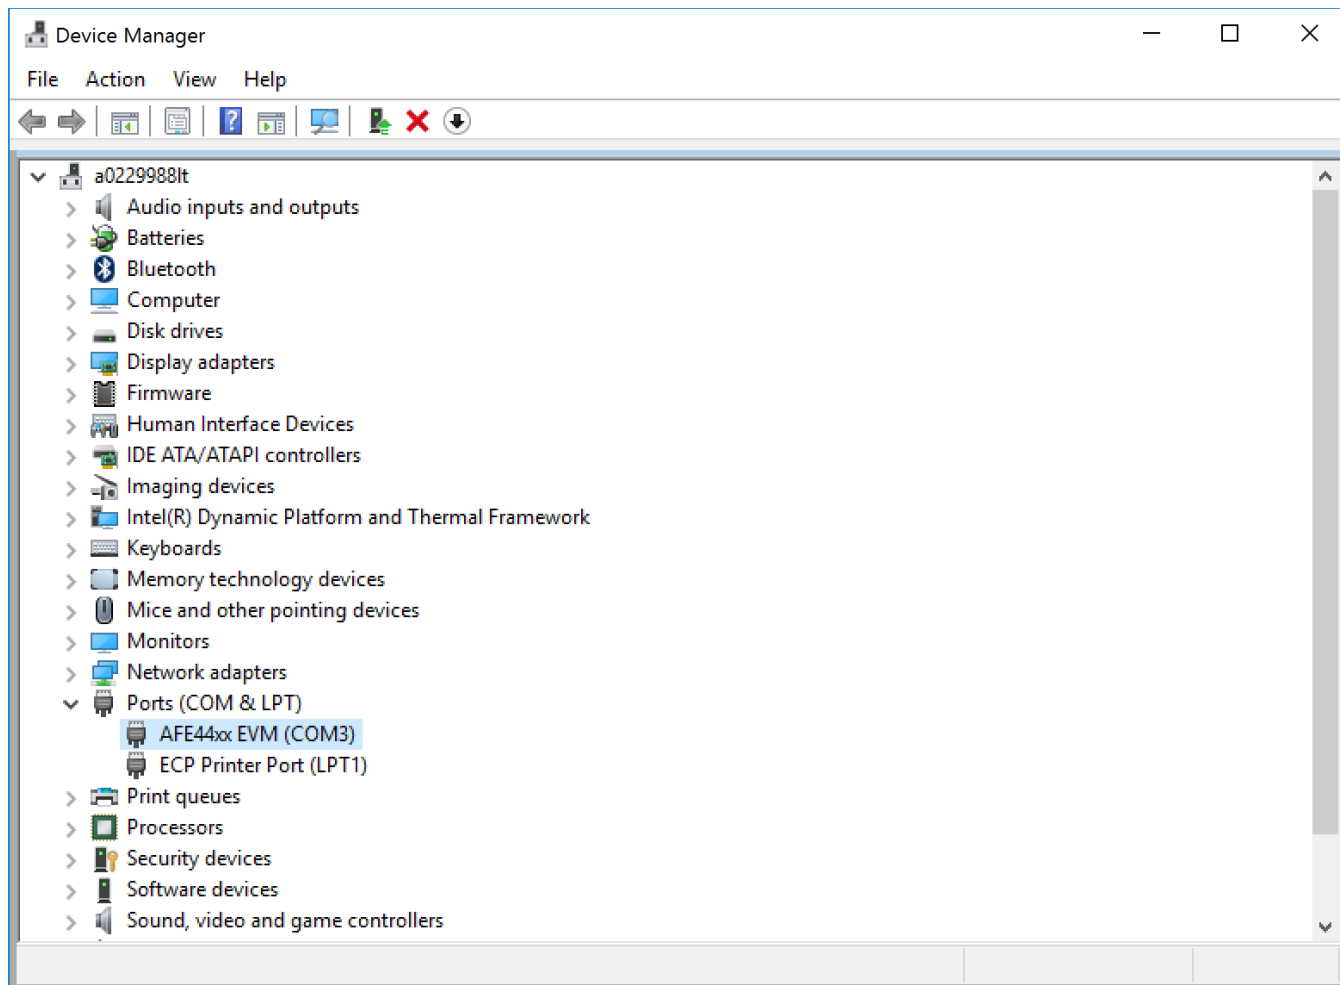

Figure 35. USB Driver Installation – Screen 8
10. The AFE4900 EVM is now recognized as Virtual COM Port under the *Device Manager* as shown in Figure 35.